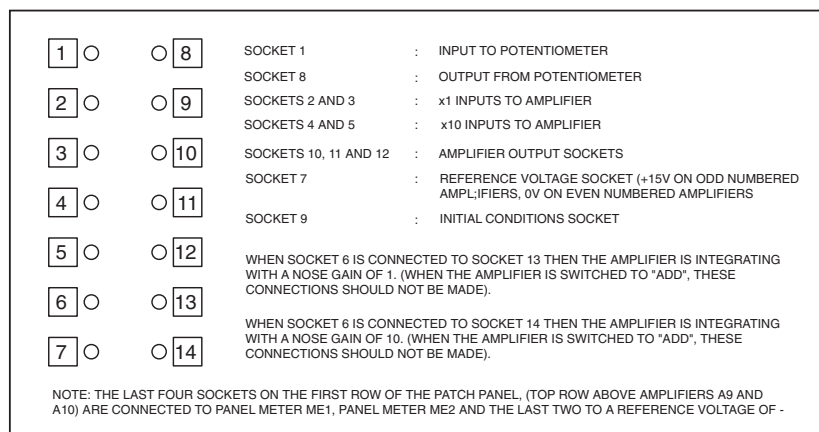

Fig.19. Patch panel socket layout and functions for one amplifier module.
The panel layout for one amplifier is shown in Fig.19. The layout for the other nine amplifiers is the same except for the reference voltage socket 7, and the four rightmost sockets of the first row of sockets, as indicated in the righthand column.
2. Make the connection for integration with a nose gain of 1, i.e. connect socket 6 to socket 13 (see Fig.19).